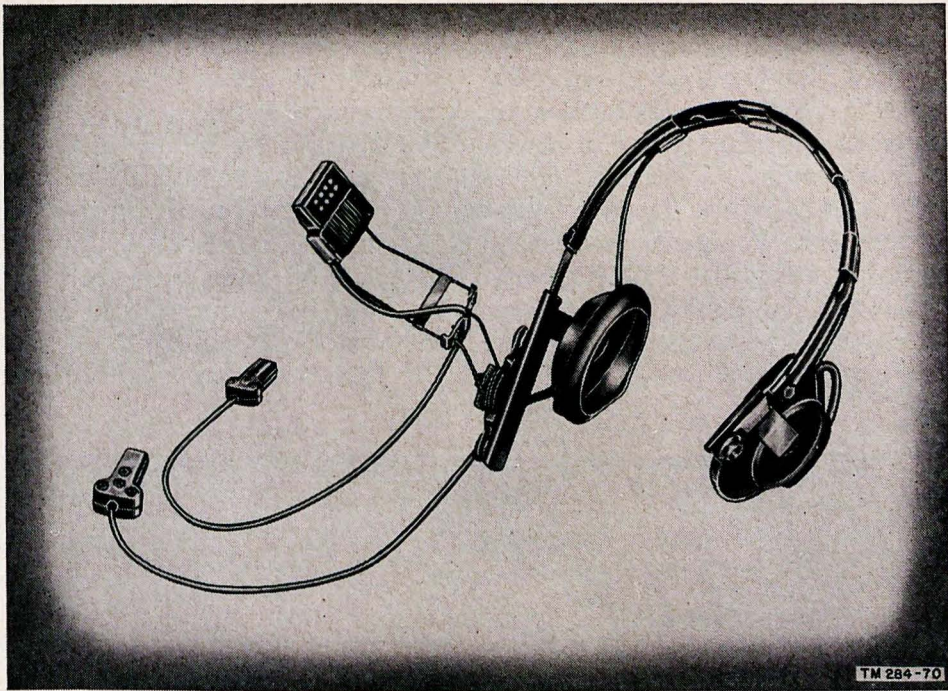

Figure 11. Headset-Microphone H-63/U.
c. HEADSET-MICROPHONE H-63/U. Headset-Microphone H-63/U (fig. 11) consists of two series-connected 300-ohm receivers and a 40-ohm microphone. The microphone is mounted on an adjustable boom attached to the receiver headband. Two 14-inch conductors from the microphone and headset are terminated in two-pin and three-pin jacks, respectively. These jacks will mate with the plugs on Chest Set Group AN/GSA-6.